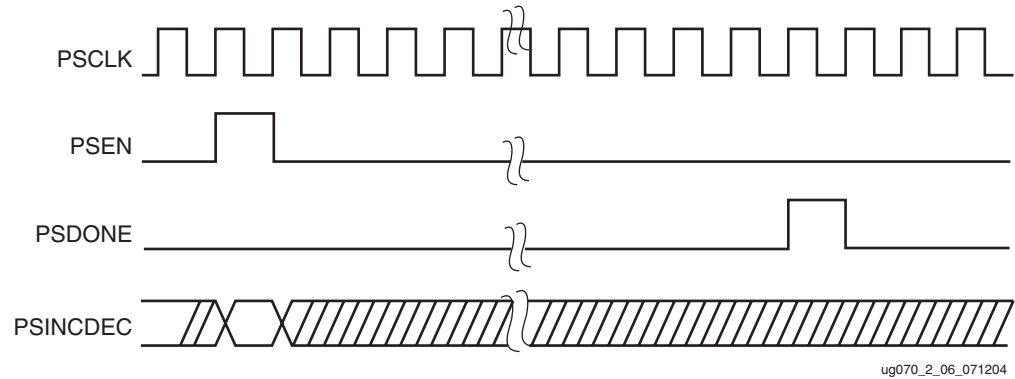

Figure 2-7: Phase-Shift Timing Diagram
Figure 2-7 illustrates the interaction of phase-shift ports.
When PSEN is activated after the phase-shift counter has reached the maximum value of PHASE\_SHIFT, the PSDONE will still be pulsed High for one PSCLK period some time after the PSEN is activated (as illustrated in Figure 2-7). However, the phase-shift overflow pin, STATUS(0), or DO(0) will be High to flag this condition, and no phase adjustment is performed.